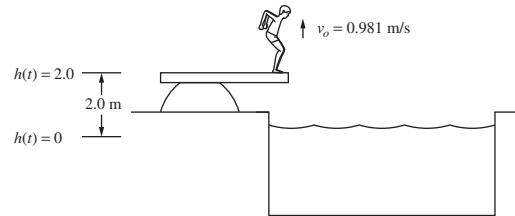

Figure P2.32 Diver jumping off a diving board.
- 2-32.** A diver jumps off a diving board 2.0 m above the water with an initial vertical velocity of 0.981 m/s as shown in Fig. P2.32. The height $h(t)$ above the water is given by